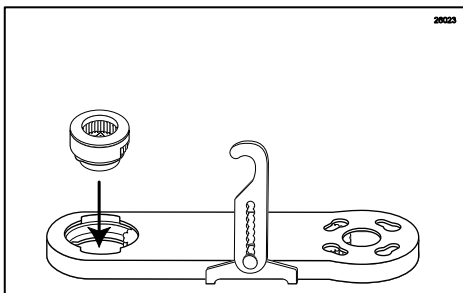

Figure 13
1. Place the Gear Cartridge into the Drive Assembly Gear Box so that the gear teeth line up with the gear inside the Drive Assembly Gear Box. (See Figure 13.)